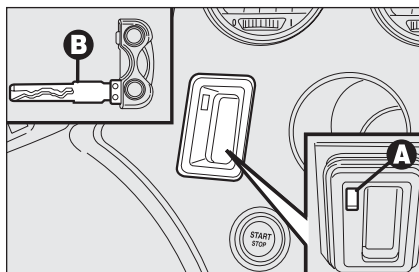

fig. 1
- ☐ fit the metal insert **B-fig. 1** of the electronic key into the slot **A**;
IMPORTANT Only fit the metal insert **B-fig. 1** of the electronic key into slot **A**.